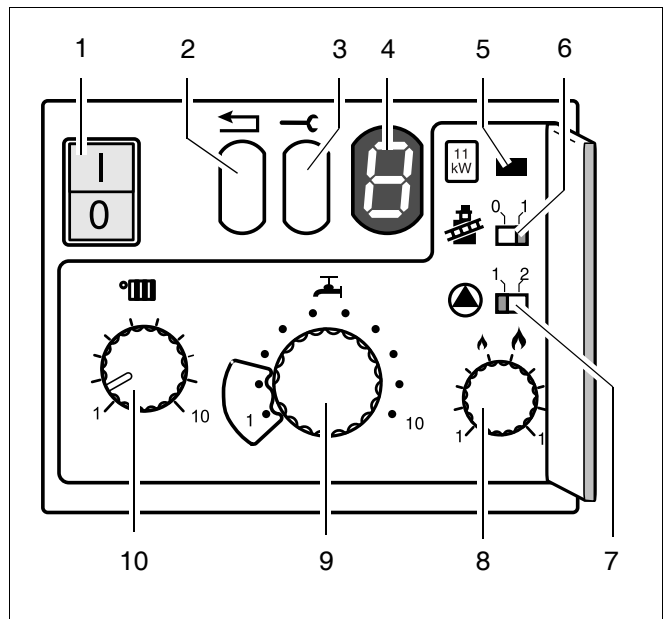

Fig. 27 UBA
**1. Power switch (see fig. 27, item 1)**
**2. Reset button (see fig. 27, item 2)**
**3. Service Button (see fig. 27, item 3)**
**4. Display (see fig. 27, item 4)**
**5. Heat-capacity Jumper (see fig. 27, item 5)**
**6. Chimney sweep switch (see fig. 27, item 6)**
**7. Pump over-run time switch (see fig. 27, item 7)**
**item 1:** Power switch
**item 2:** Reset button
**item 3:** Service button
**item 4:** Display
**item 5:** Heat-capacity jumper (do not remove)
**item 6:** Chimney sweep switch
**item 7:** Pump over-run time switch (not applicable for this boiler)
**item 8:** Heating capacity controller
**item 9:** DHW temperature controller / Service capacity controller (used in service mode only)
**item 10:** Flow temperature controller
### 8. Heating capacity controller (see fig. 27, item 8)
### 9. DHW temperature controller / Service capacity controller (see fig. 27, item 9)
### 10. Flow temperature controller (see fig. 27, item 10)